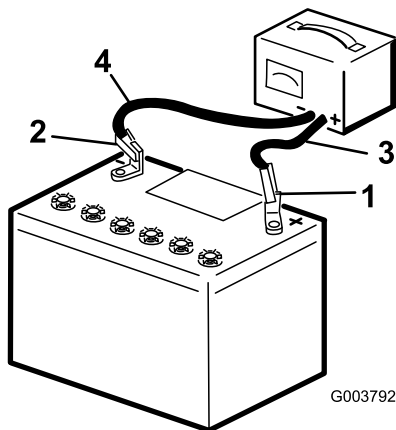

Figure 2
2. Connect a charger to the battery (Figure 2) and charge it for a minimum of 1 hour at 6 to 10 amps. Do not overcharge the battery.
3. When the battery is fully charged, unplug the charger from the electrical outlet, then disconnect the charger leads from the battery posts (Figure 2).